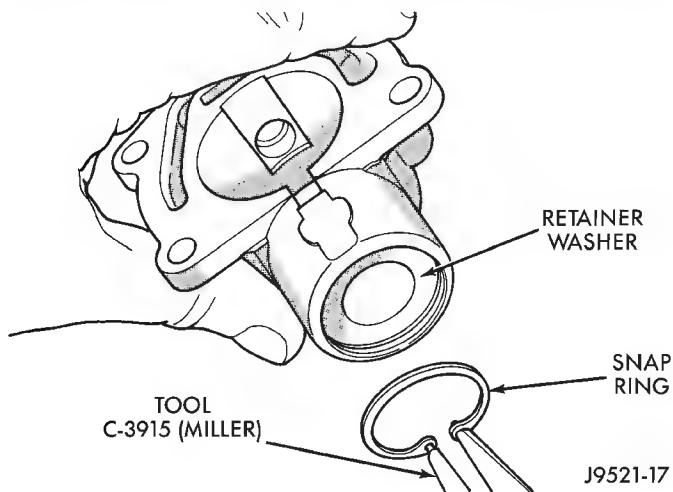

Fig. 17 Governor Weight Retaining Snap Ring And Washer Removal
- (3) Remove snap ring and retainer washer that secure governor weight assembly in body. Use Miller C-3915 Internal Pliers to remove snap ring (Fig. 17).
(4) Remove governor weight assembly from gover-